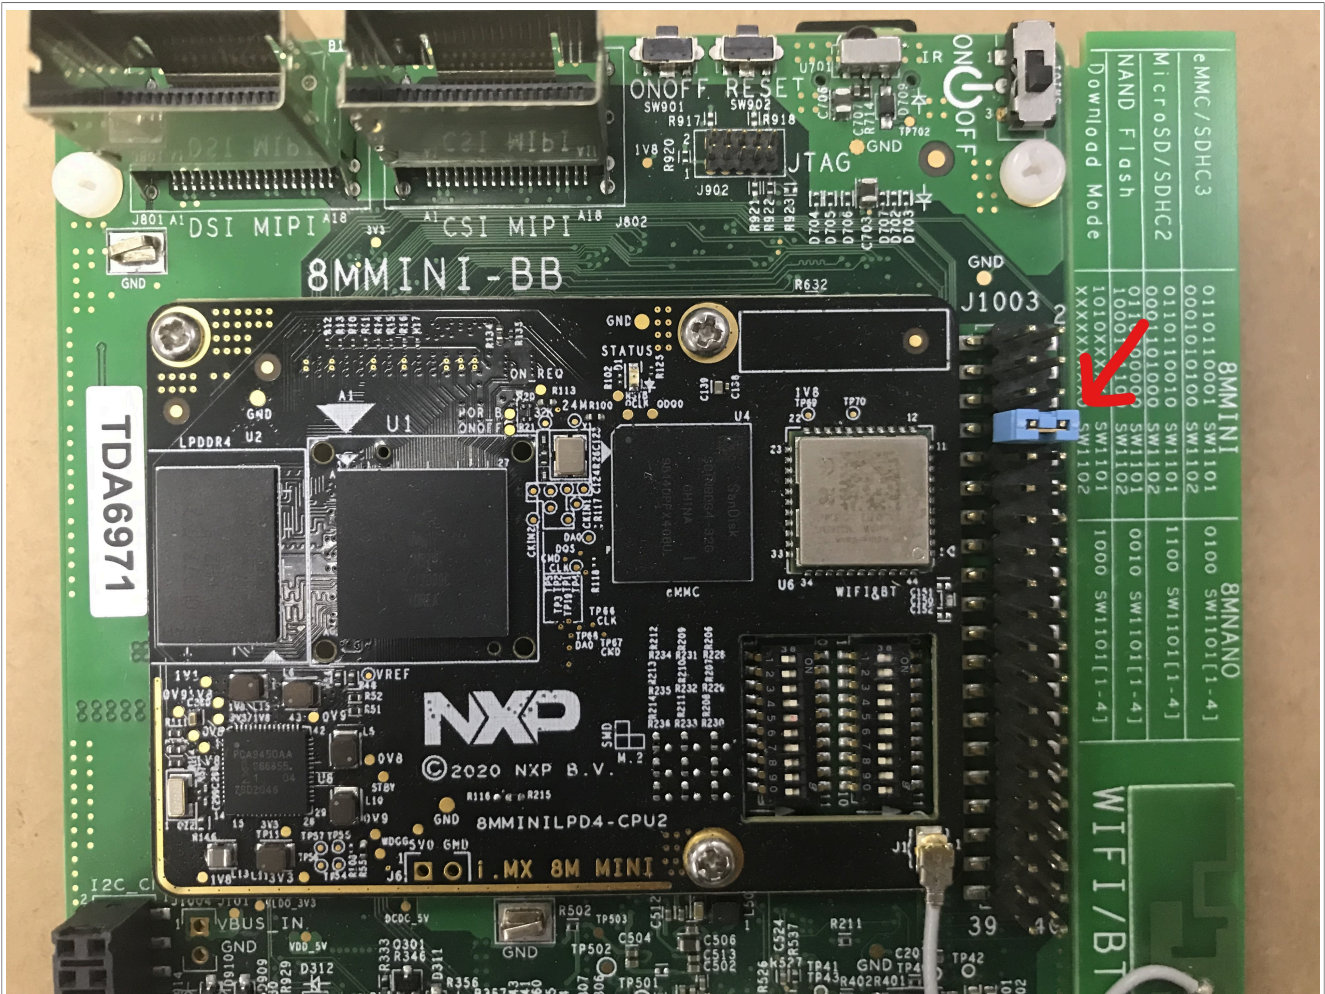

Figure 11. Connections for GPIO test on i.MX 8M Mini LPDDR4 EVK board
- For GPIO test on i.MX 8M Mini LPDDR4 EVK, connect pin7 and pin8 of J1003 by a jumper as shown in Figure 11.